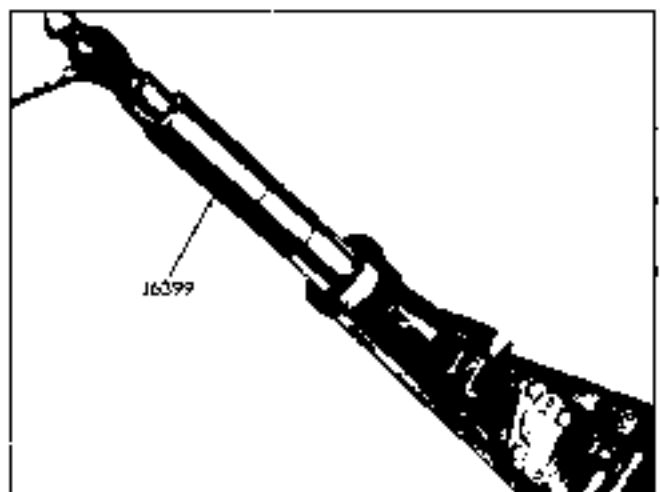

Fig. 7D-18 Removing or Installing Extension Case Bushing
19. Remove mainshaft rear snap ring. Support second speed gear and press on rear of mainshaft to remove rear bearings, first speed gear and sleeve, first speed synchronizing ring, 1-2 synchronizer clutch assembly, second speed synchronizing ring and second speed gear from the mainshaft (Fig. 7D-16).